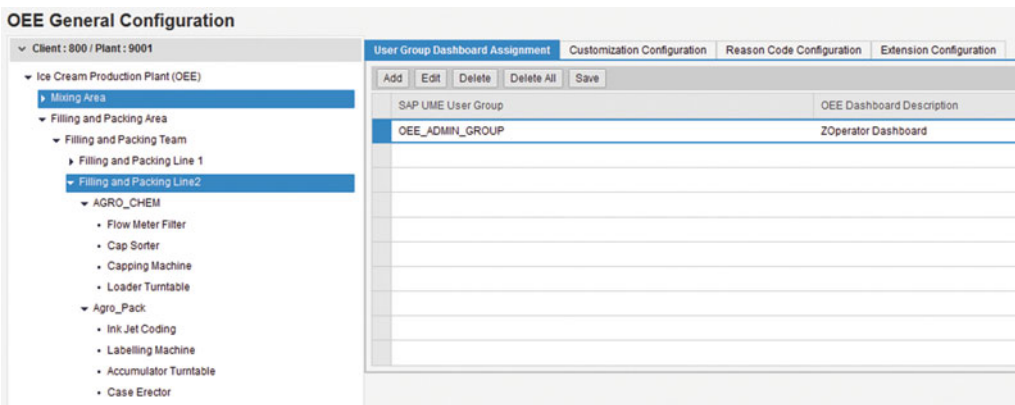

Figure 5-19. User group dashboard assignment: save dashboard
5. Click Add, and the user group dashboard assignment is added. Save the assignment as shown in Figure 5-19.